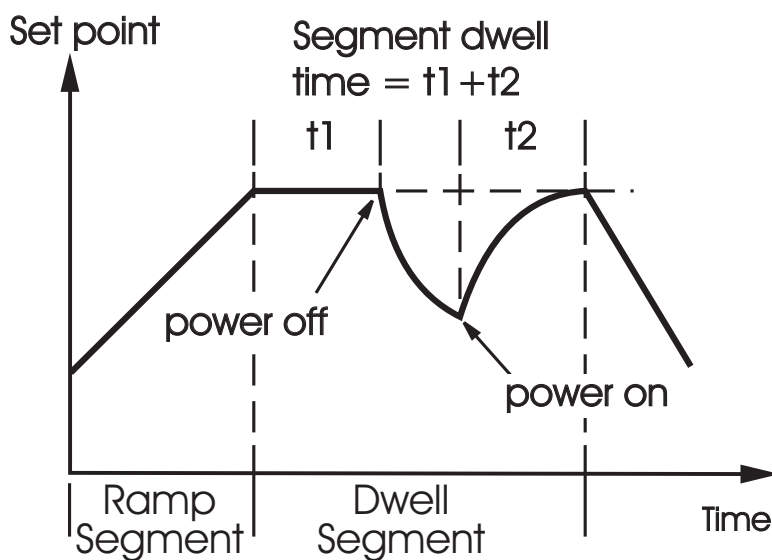
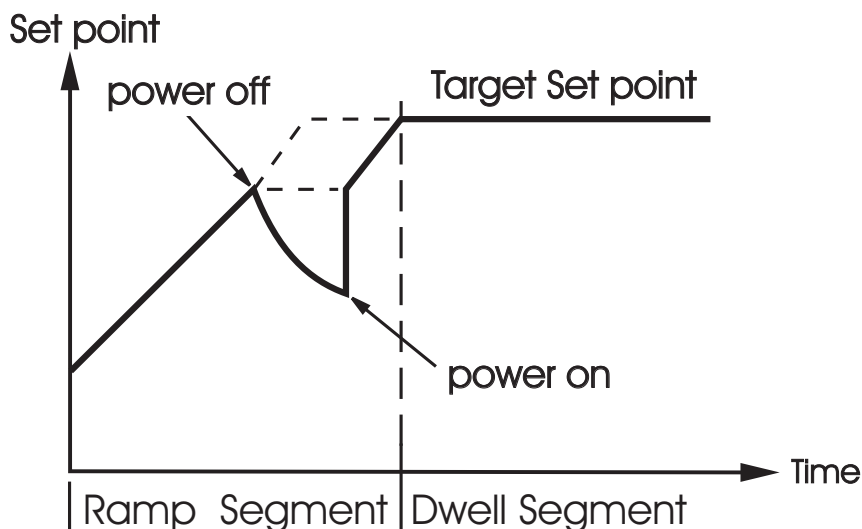

Figure 4.3 Recovery from profile at dwell segment
Figure 4.4 Recovery from profile at ramp segment
If power is lost and then restored, while a profile is running, the behavior of the profile is determined by the setting of the parameter " PFR " power fail recovery in profile configuration. This can have one of 4 settings - *cont* , *PU* , *SP1* and *OFF*. If *cont* is selected, then when power is restored the profile continues from where it was interrupted when power was lost. The parameters such as set point value (SV), time remaining (TIME) and cycle remaining (CYCL) will be restored to their power-down values. For application that need to bring the process value to the set point value as soon as possible, this is the best choice. The two diagrams below illustrate the respective responses, Fig. 4.3 if power fails during a dwell segment and Fig. 4.4 if it fails during a ramp segment.